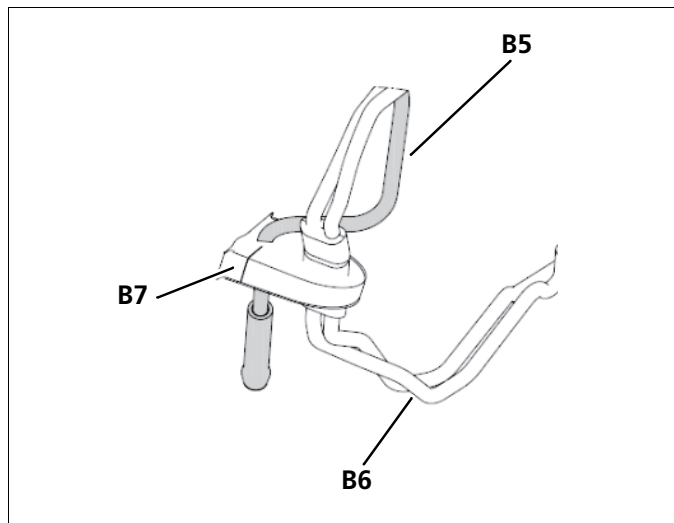

Fig. 33 Glow plug cable, bush and fuel pipe
5. Lay the glow plug cable (B6) with a slight bend, as shown in Fig. 33, and push the bush (B7) onto the fuel pipe (B5).